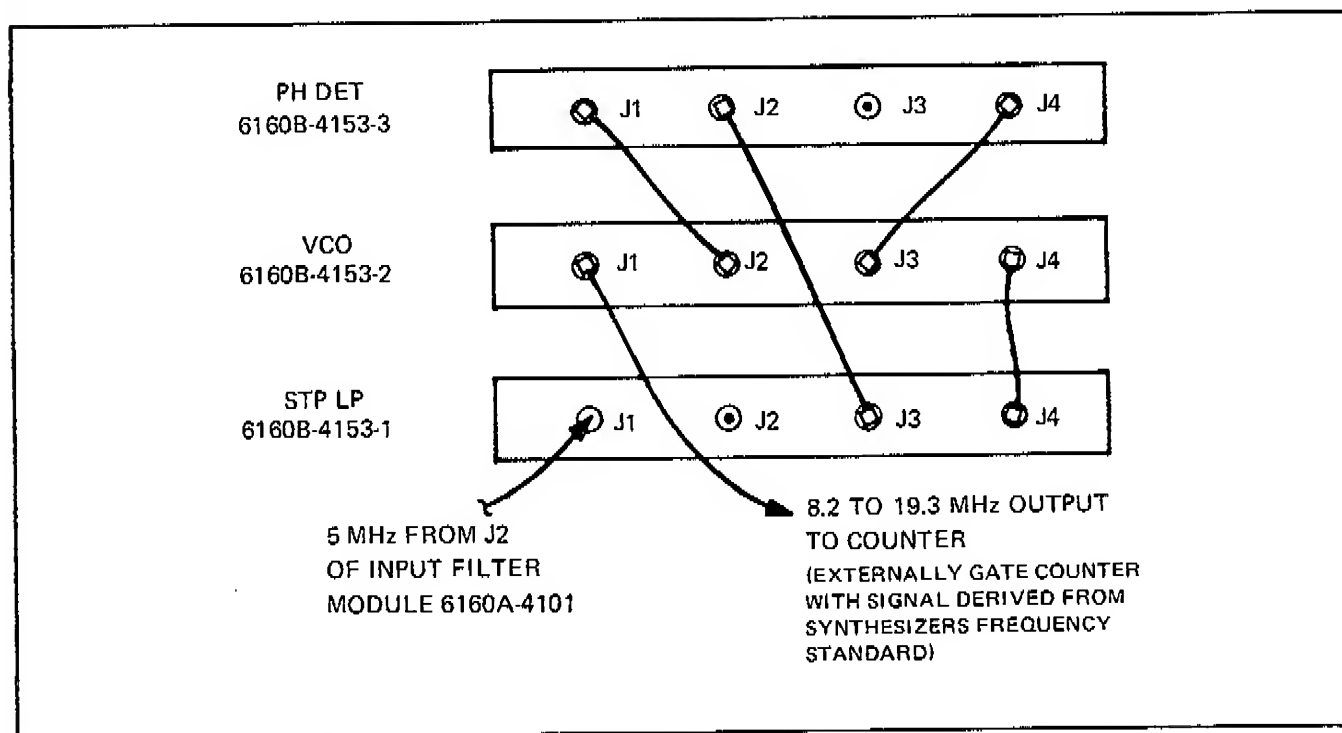

Figure 4-10. 1 MHz DIGIT GENERATOR EQUIPMENT CONNECTIONS, No. 2.
- l. Disconnect signal generator from J3 on PH DET and connect J4 of STP LP to J4 of VCO as shown in Figure 4-10